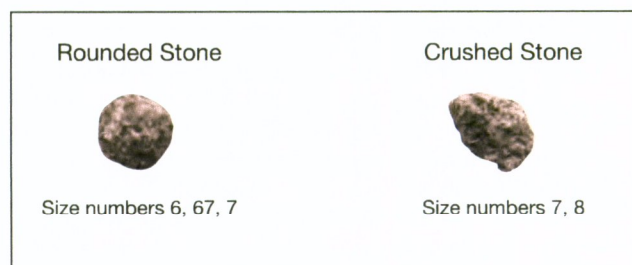

FIGURE 6-1
6.2.1.3. When using select rounded stones, they must conform to the specifications of ASTM C 33, size numbers 6, 67 or 7. See FIGURE 6-1 and Xerxes Primary Backfill Requirements, APPENDIX B, for additional information on backfill material specifications.
6.2.1.4. When using select crushed stones, they must conform to the specifications of ASTM C 33, size numbers 7 or 8. See *FIGURE 6-1 and Xerxes Primary Backfill Requirements, APPENDIX B*, for additional information on backfill material specifications.